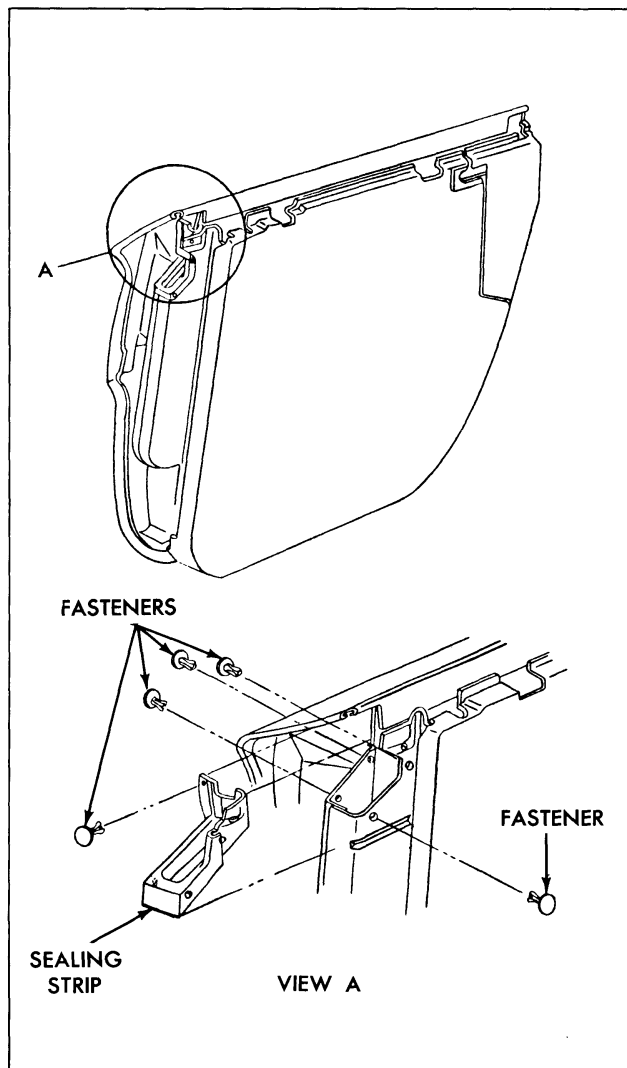

Fig. 3-13 Rear Door Hinge Pillar Sealing Strip
1. Remove snap fasteners securing sealing strip to hinge pillar facing of rear door and remove strip assembly (Fig. 3-13).